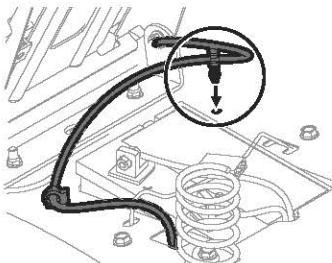

Figure 4
- Using the harness clip attached to the harness, secure the excess wire to the fender by snapping the harness clip in place (Figure 4).